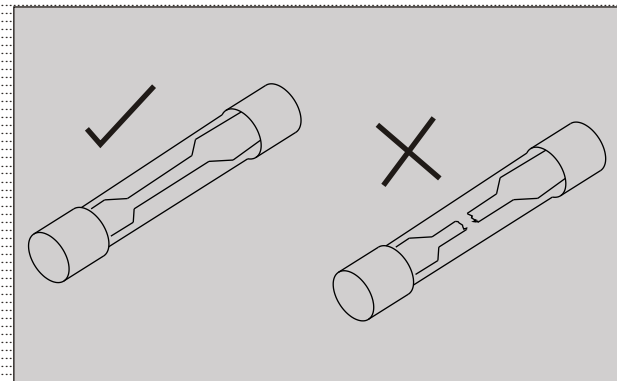

Fig. 5.3
- When a fuse blows, always investigate the cause, correct it and then replace the fuse. (Fig 5.3)